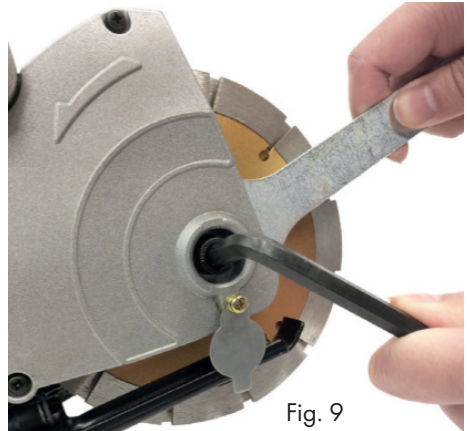

Fig. 9
- Unscrew the screw connection counterclockwise, Fig. 9.